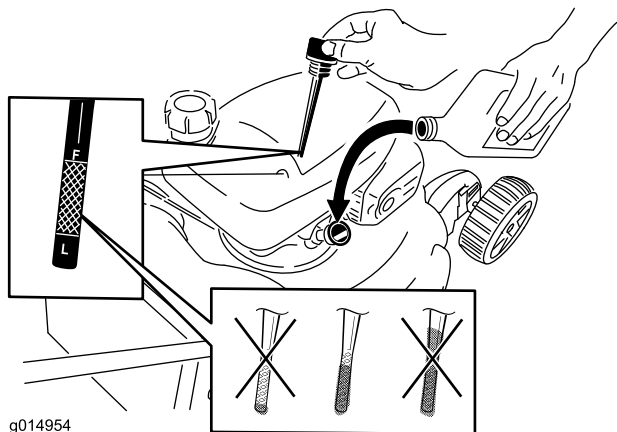

Figure 14
2. Remove the dipstick (Figure 14).
5. Remove the dipstick and read the oil level; refer to Figure 14.
- If the oil level is too low, add a small amount of oil slowly to the oil-fill tube, and then repeat steps 3 through 5 until the oil level is correct as shown in Figure 14.